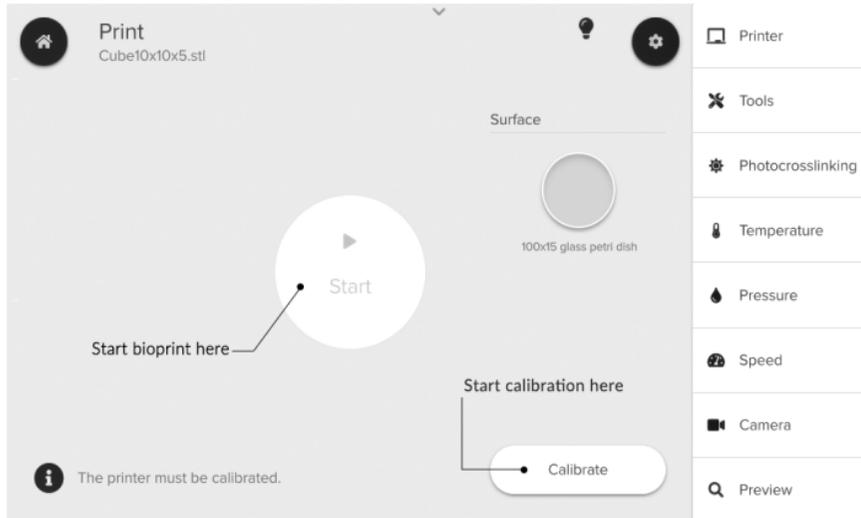

Figure 17: Use the Bioprint menu to calibrate the system and start the bioprinting process.
- Select Calibrate to calibrate the system to the desired start position (Figure 17).
- Start the bioprinting process (Figure 17).